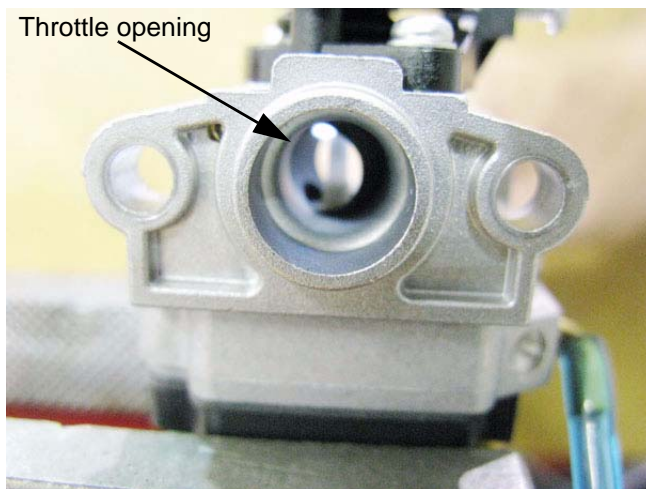

Figure 5.11
3. At mid-range throttle, the throttle is rotated so that the bore is nearly aligned with the throat of the carburetor. See Figure 5.11.